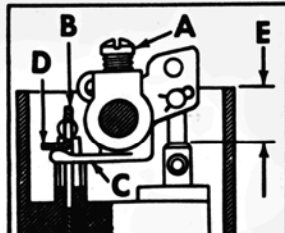

Figure 2
a. Type "A". (See figure 2.) Back out throttle stop screw until throttle valves seat in bores. Install pump link in lower hole of arm. With throttles closed, distance "E" should be as listed in Table. Bend throttle connector rod at lower angle to adjust.
b. Type "B". (See figure 2.) Back out throttle stop screw until throttle valves seat in bores. With metering rods in place, press downward on vacuum piston link (B) until metering rods "bottom" in carburetor body. With throttle valves held closed and metering rods "bottomed", loosen clamp screw (A) on metering rod arm and rotate the arm until the lip (C) contacts lug (D) on vacuum piston link. Tighten the clamp screw (A) and recheck.